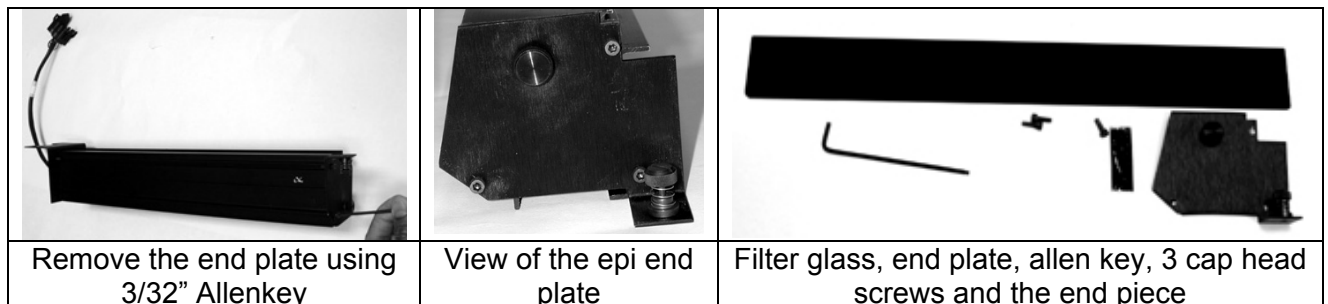

Figure 5.3
To change an epi-lamp, follow the procedure outlined below (Figure 5.3):
5. Using a hex 3/32" key remove the three screws that secure the front end plate on the epi modules and slide out the end piece and filter glass and set aside for future use. See Figure 5.3.